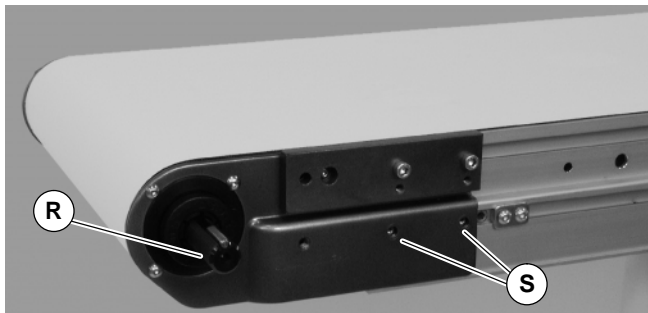

Figure 6
3. Locate drive output shaft (R of Figure 6) and remove screws (S).